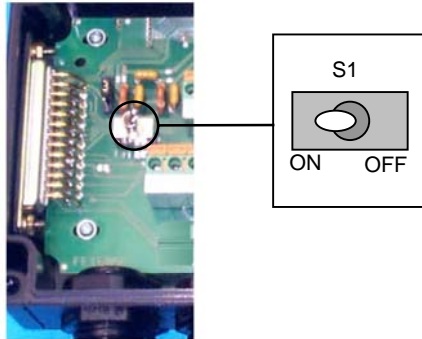

Figure 6 - Power Switch ON/OFF Positions
Switch ON the C-BOX 100 power switch (see Figure 6). The correct polarity of the power connection is signaled by the green LED, while the red LED turns on in case of wrong polarity.
The power switch (see Figure 6) switches the power supply ON or OFF for both the C-BOX 100 and the connected scanner.
- 2) Verify that the C-BOX 100 power switch is off (see Figure 6).